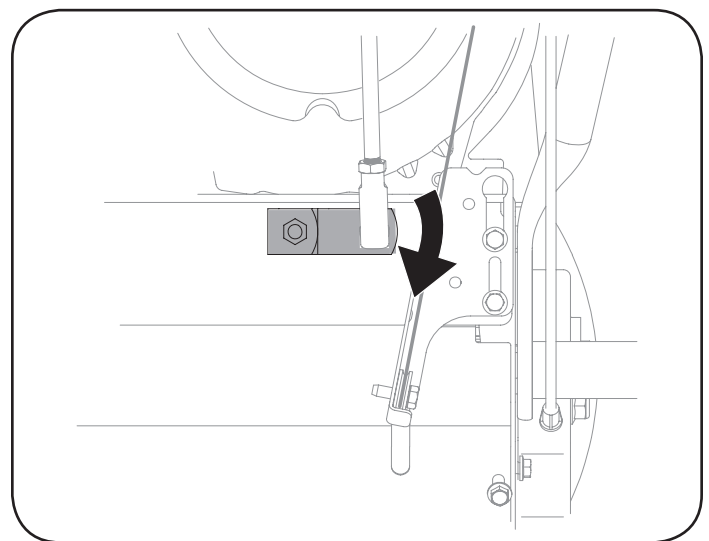

Figure 62
3. Pivot shift bracket downward as far as it will go. See Figure 62.